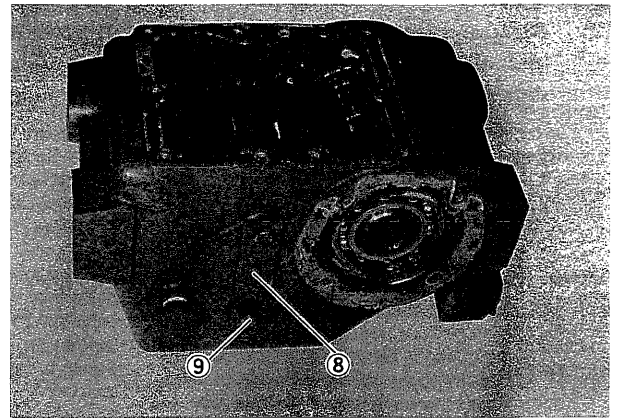

Fig. 45
- (4) Remove support fixing bolts (9) to remove support (8). (Fig. 45)